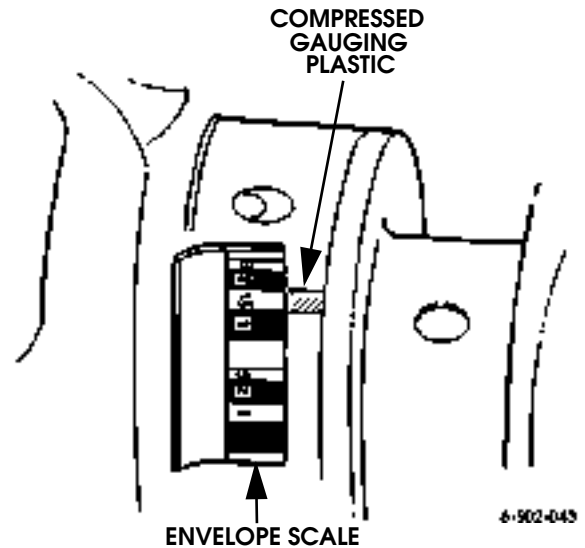

Figure 2-156: Measuring Gauging Plastic to Determine Bearing Clearance
8. Remove main bearing caps and measure plastigauge with graduated scale on gauge envelope (Figure 2-156). Measure widest point of compressed plastic.